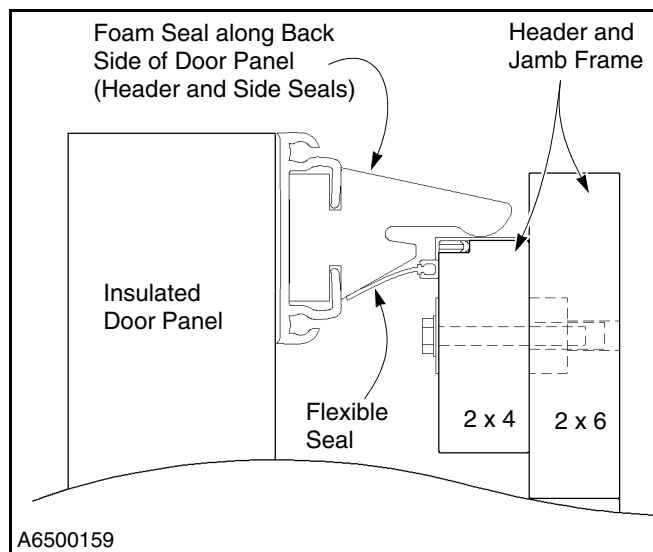

Figure 29
14. Verify that there is a tight barrier between the foam seals along the back side of each door panel and the flexible rubber seals along the header and jamb frame. The flexible rubber seals should form a tight fit against the foam seals. (See Figure 29.)